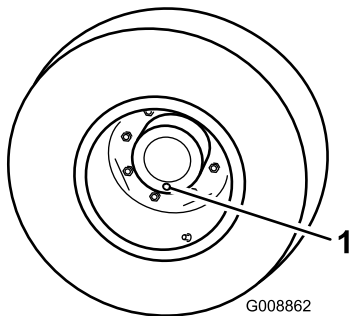

Figure 59
1. With the machine on a level surface, position a wheel so a check plug is at the lowest (6 o'clock) position (Figure 59).